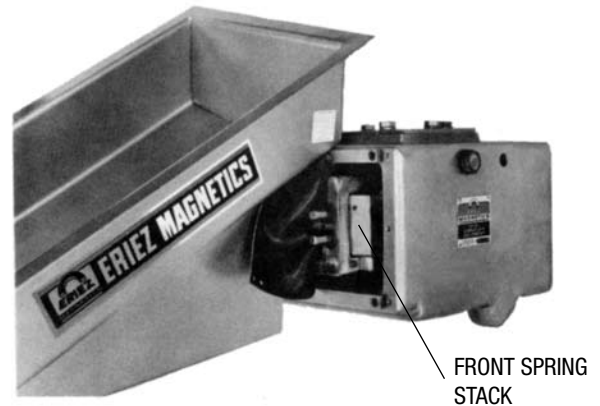
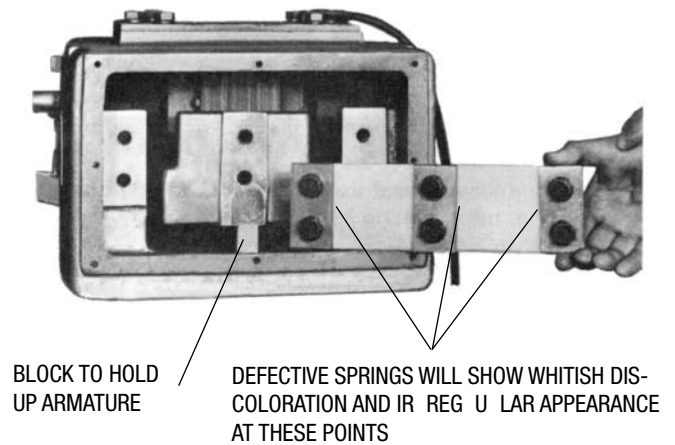

FIGURE 9
FIGURE 10
Although the non-metallic leaf springs have outstanding life characteristics, failure may eventually occur, especially if the displacement is greater than normal. The symptoms of such failure are: (1) erratic behavior of the unit, (2) greatly reduced displacement or (3) greatly increased and perhaps uncontrollable displacement. If spring failure is suspected, the front and rear spring stacks should be removed, checked and replaced one stack at a time. Access to the rear spring stack is gained by removing the rear cover of the unit, while the front stack can be reached by first removing the tray and the flexible diaphragm (see Figure 9). Before either spring stack is removed the armature at that end of the unit should be blocked up (see Figure 10) to hold its position relative to the body casting, and the blocks left in place until the spring stack is replaced.